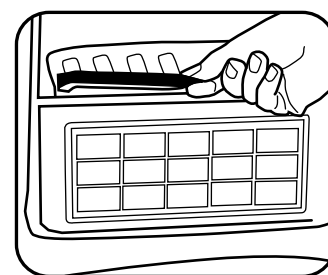

Fig. 5
2. Remove the secondary filter and replace with a new filter (Fig. 5).